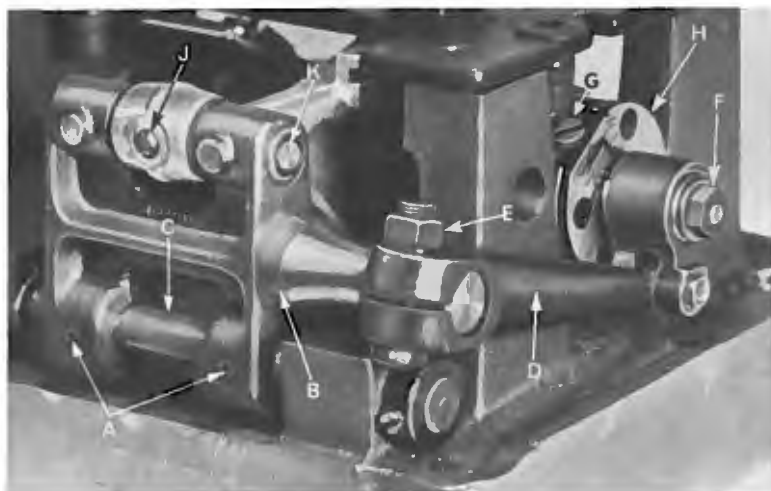

Fig. 10
Should it be necessary to move the feed dog to the left or right, loosen screws (A, Fig. 10) which hold the feed rocker (B) onto the feed rocker shaft (C), and move feed rocker to desired position and retighten screws. Make sure the feed rocker arm (D) does not bind after making this adjustment.
Set the stitch to required length. This is accomplished by loosening the locknut (F, Fig. 10) (it has a left hand thread) on the end of the stitch regulating stud and turning the stitch adjusting screw (G) located under the left end of the cloth plate, in the head of the main shaft (H), which is marked with "L" and "S". Turning the screw clockwise shortens the stitch (moves stitch regulating stud toward the "S") and turning it in a counterclockwise direction lengthens the stitch (moves stitch regulating stud toward the "L"). Retighten the locknut securely.
The feed rocker assembly may require lubrication or repair after years of operation. This can be accomplished as follows: Loosen nut (E, Fig. 10) and remove nut (F). Remove feed rocker arm (D) from machine by rocking slightly. Loosen screws (A) and remove stop collar on right end of shaft (C). The shaft can now be withdrawn. Loosen Allen screw (J) and remove shaft (K). Now, repack bearings.